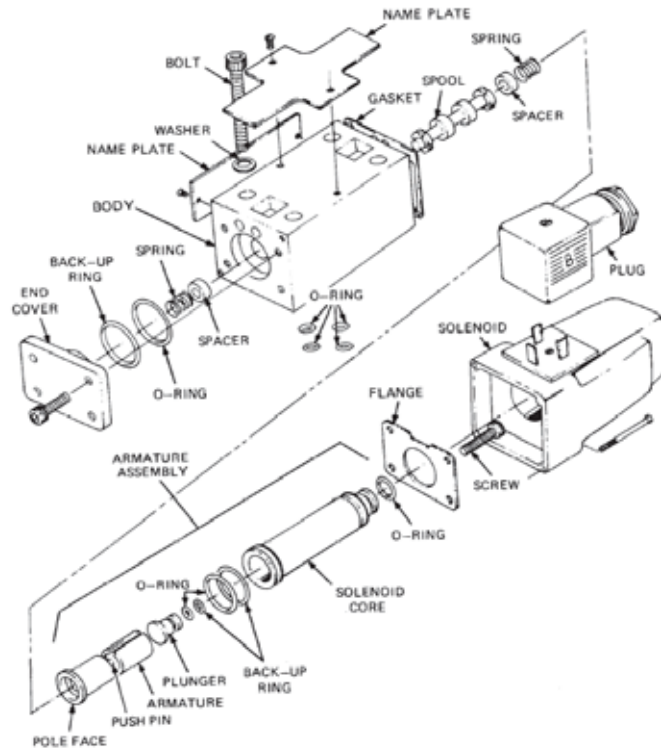

Figure 12 Solenoid Operated Control Valve – Exploded View
40. An exploded view of the solenoid operated control valve is shown in Figure 12.